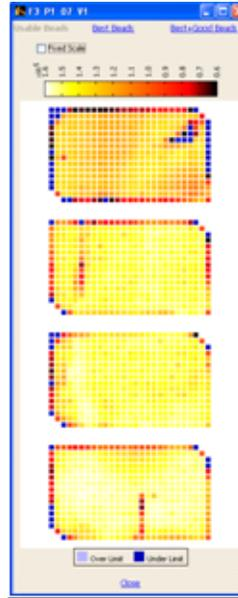

Figure 65 Double-click any cycle to view the heat map for that cycle.
2. Double-click any cycle to view the heat map for that cycle (see Figure 65 on page 82).